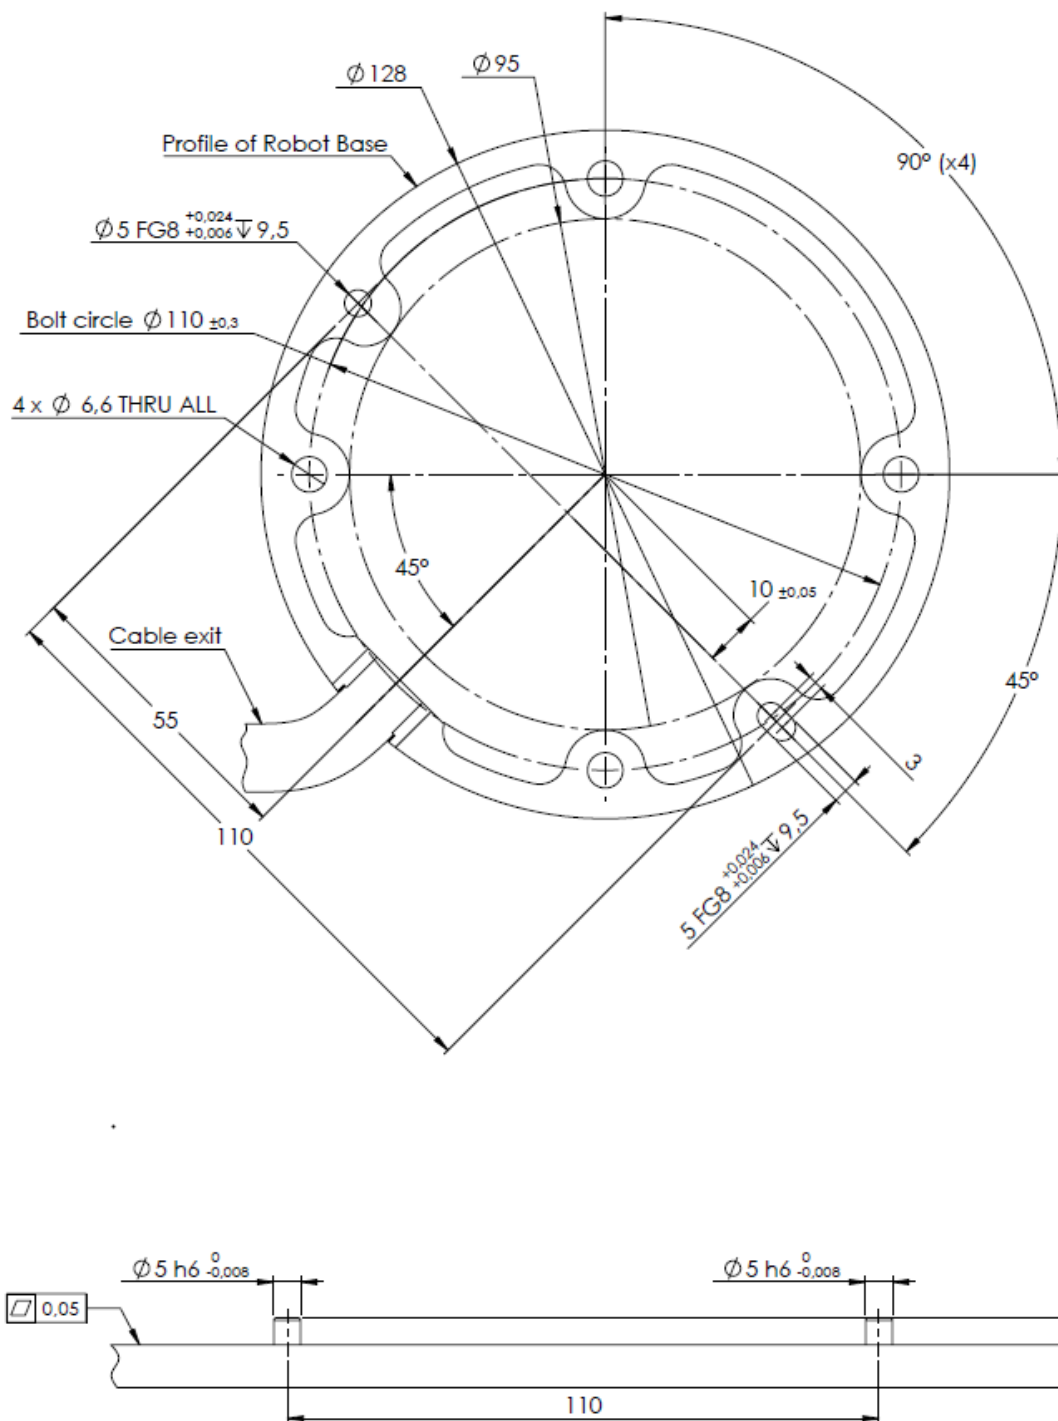

Figure 4.1: Holes for mounting the robot. Use four M6 bolts. All measurements are in mm.
**Robot Arm** The robot arm is mounted using four M6 bolts, using the four 6.6 mm holes on the base. It is recommended to tighten these bolts with 9 N m torque. If very accurate repositioning of the robot arm is desired, two Ø5 holes are provided for use with a pin. Also, an accurate base counterpart can be purchased as an accessory. Figure 4.1 shows where to drill holes and mount the screws.